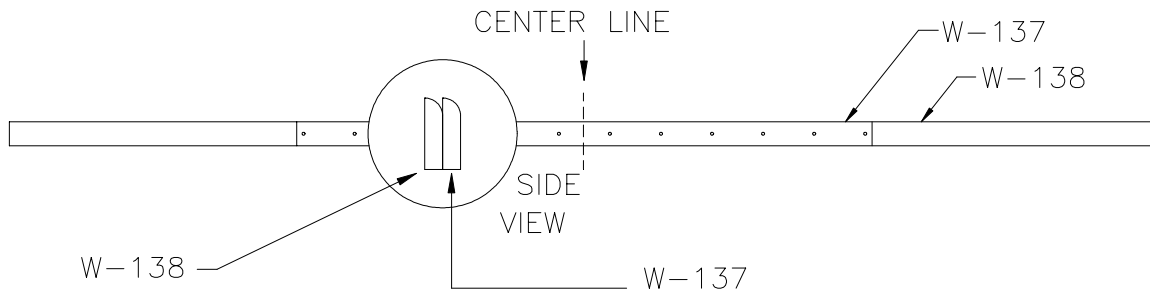

Figure 8.1.2
- 4) Clamp a drilled 24" Spar Cap (W-137) to the center of a 43" long Spar Cap (W-138). Figure 8.1.2.